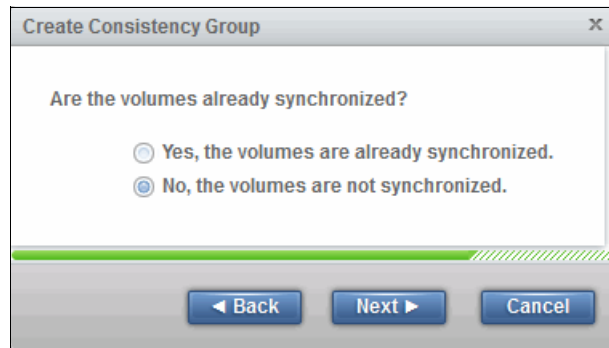

Figure 10-127 Volume synchronization
11. When you finish, click **Next**. The next window prompts for whether the relationships are synchronized, as shown in Figure 10-127.